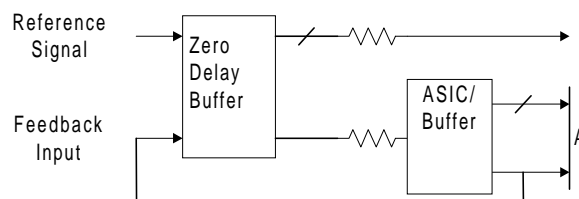

Figure 2. 6 Output Buffer in the Feedback Path
Referring to *Figure 2*, if the traces between the ASIC/buffer and the destination of the clock signal(s) (A) are equal in length to the trace between the buffer and the FBIN pin, the signals at the destination(s) device will be driven high at the same time the Reference clock provided to the ZDB goes high. Synchronizing the other outputs of the ZDB to the outputs from the ASIC/Buffer is more complex however, as any propagation delay in the ASIC/Buffer must be accounted for.